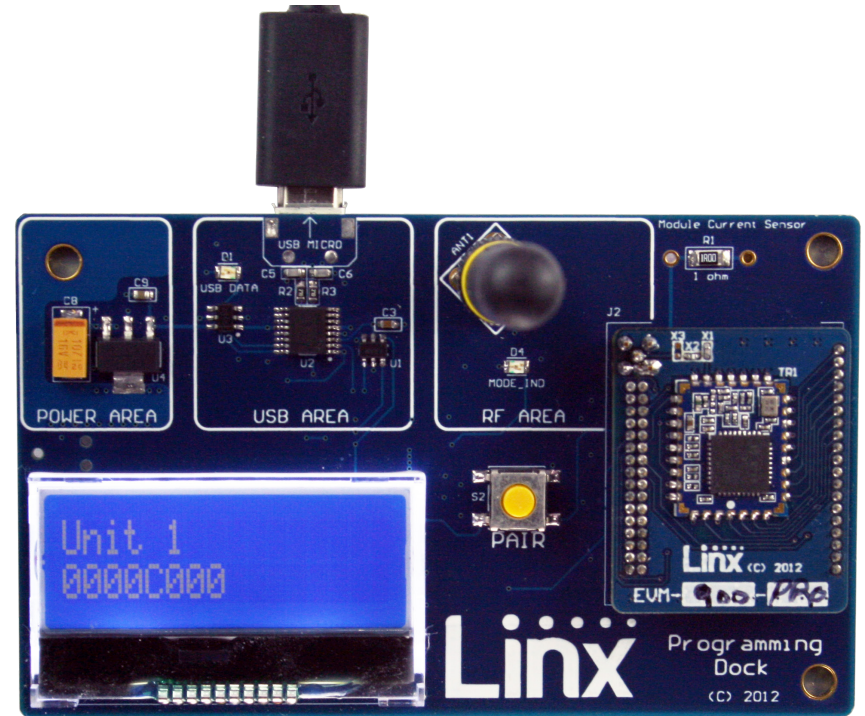

Figure 17: The Master Development System Programming Dock with Name and Address Displayed
3. A custom name that can be given to the module. Type a name into the box and press Enter to apply it. This name is shown on the LCD display on the programming dock (Figure 17).